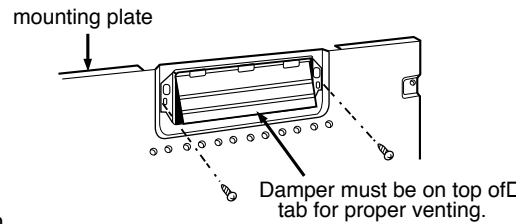

Figure 26
**NOTE:** If you are venting the oven through the wall, be sure you align the damper/connector on the rear of the mounting plate with the 3 1/4"x10" duct. Be sure the damper moves freely. See Figure 26.